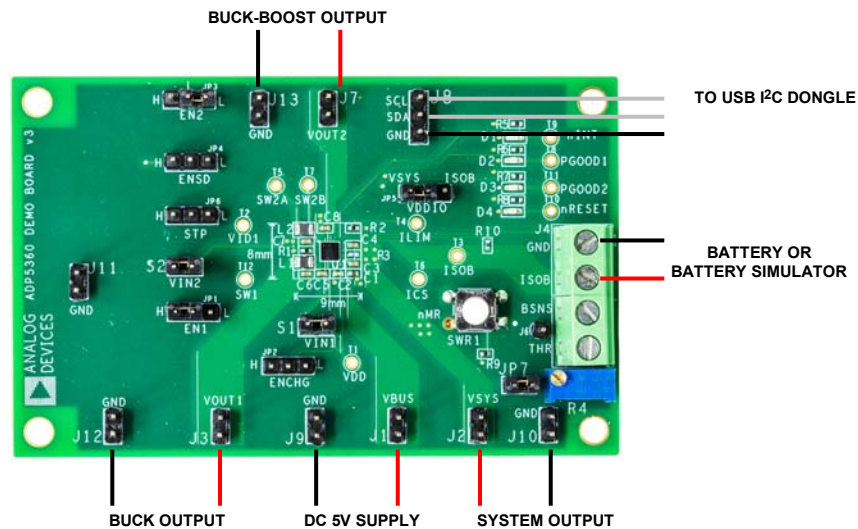
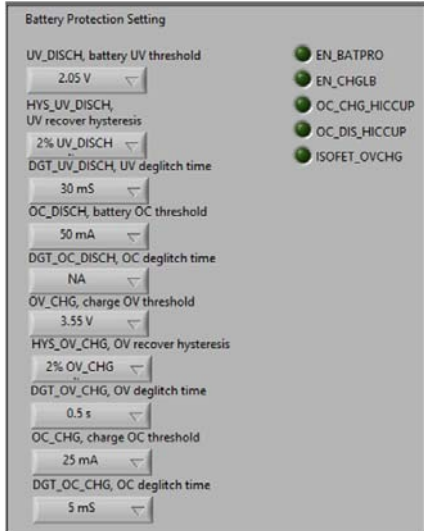
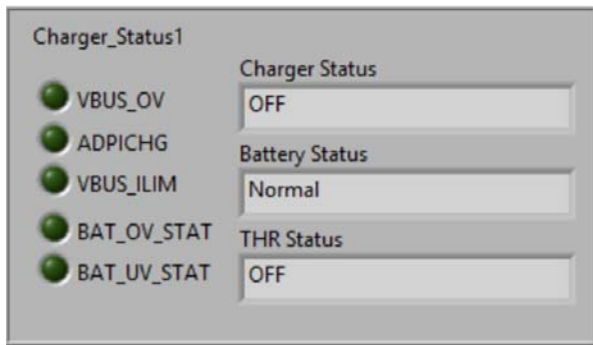
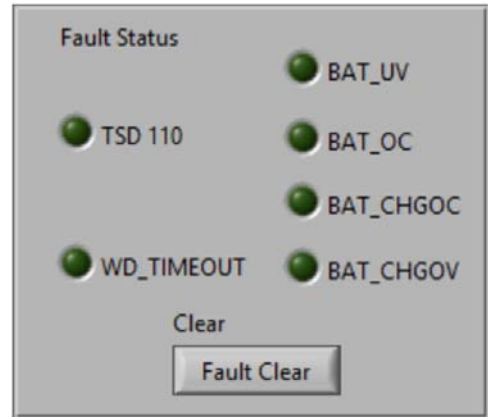

Figure 17. ADP5360CB-EVALZ WLCSP Board Connection Diagram
Figure 18. GUI Charge Parameter Control Settings
Figure 19. GUI Charger_Status1 Settings
Figure 20. GUI Fault Status Settings
2. Connect a 5 V power supply between the VBUS and GND screw terminals (see Figure 17 for a connection diagram). Or connect a Li-ion battery or battery simulator between ISOB and GND (see Figure 17).
1. Connect a 5 V power supply between the VBUS and GND screw terminals. Connect a discharged Li-ion battery or simulation battery between ISOB and GND (see Figure 17).
The ADP5360CB-EVALZ evaluation board is supplied fully assembled and tested. Before supplying power to the evaluation board, follow the procedures detailed in the Input Jumpers section and Quick Start section. See Figure 17 for component locations.
The input current-limit function of the ADP5360 can be evaluated in fast CC charging mode. An additional system load must be connected to the VSYS node to measure the input current limit of the VBUS node (see Figure 17) across the full programming range of 50 mA to 500 mA. Adhere to the following steps to evaluate the input current-limit function:
1. Set the supply voltage of the VBUS node on the ADP5360CB-EVALZ board to 5.0 V and then, either populate a charged battery ($V_{BAT} > V_{WEAK}$) or connect a battery simulator to the ISOB node (see Figure 17).
All battery protection voltage and current threshold settings, hysteresis setting, and deglitch time is set up in the **Battery Protection Setting** section, under the **Charge Control** tab, shown in Figure 18.
For UV protection, set the ISOB voltage lower than the default 2.5 V **UV_DISCH, battery UV threshold** value (see Figure 18). Next, check that the **BAT_UV_STATUS** (see Figure 19) status bit is set to high, the VSYS node voltage is shut down, and that the battery is isolated from the VSYS side.
For overvoltage (OV) protection, set the battery simulator voltage higher than the default 4.3 V **OV_CHG, charge OV threshold** (see Figure 18) value. Then check that the **BAT_OV_STATUS** (see Figure 19) status bit set to high and that the VSYS node is isolated from the ISOB node.
To enable the overdischarge current protection, set the VSYS load current (see Figure 17) at the system output to the default **OC_DISCH, battery OC threshold** value (see Figure 18). Next, check that the battery ISOB node is isolated from the VSYS side, and that the BAT_OC fault bit (see Figure 20) is set high (**BAT_OC** lit up).
To enable overcharge current protection, set the charge current higher than the default **OC_CHG, charge OC threshold** value (see Figure 18). Next, check that the charger has shut down and that the **BAT_CHGOC** fault bit (see Figure 20) is set high.